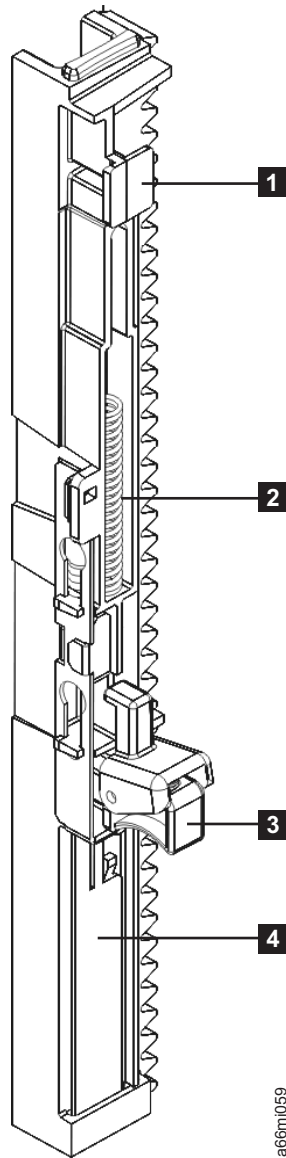

Figure 8-67. Gear rack (detail)
Note: Don't lose the spring (**2** in Figure 8-67 on page 8-67) that is recessed in the gear rack slot.
2. Using your thumb, push the metal slide (**4** in Figure 8-67 on page 8-67) toward the gear rack locking mechanism (**3** in Figure 8-67 on page 8-67) and hold it in place while inserting the black tab (**1** in Figure 8-67 on page 8-67) and locking mechanism into the keyhole slots in the library chassis.